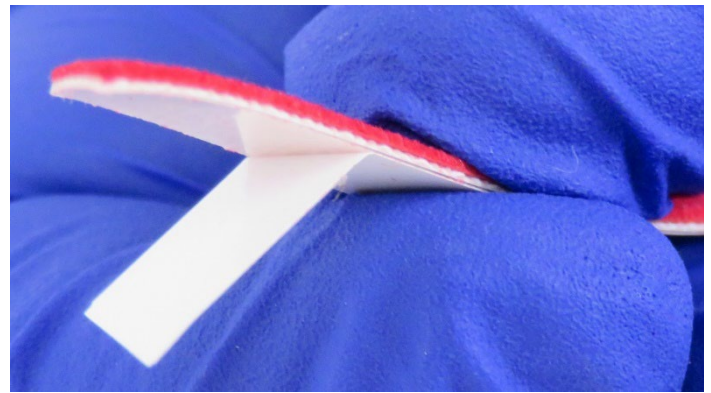

Figure 3: Separating the Backing from the Repadding Strip
2. Each Repadding Strip has a white backing attached to it as shown in *Figure 3*. To start, peel the edge of this backing away from the cloth.